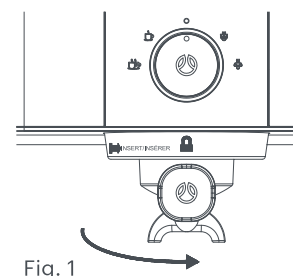

Fig. 1
2. Ensure the Dynamic Control Dial is in the Standby position. Insert the Portafilter **without espresso grounds** according to Figure 1, turning counter-clockwise until the Portafilter is locked.